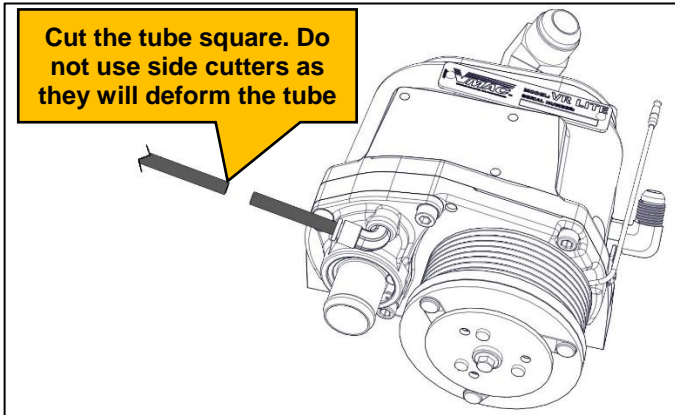

Figure 1 – Cut PTFE tube
- Cut the 1/4 in PTFE tube in a location close to the compressor but where the pressure switch will not interfere with the engine or compressor components (Figure 1).